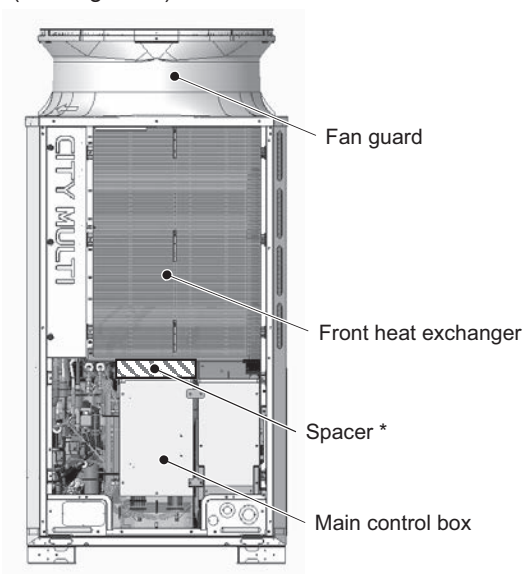
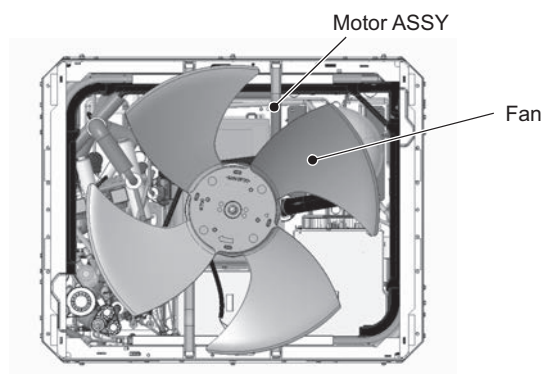

Figure 7
Figure 8
- (8) Remove the fan guard by unscrewing the 6 screws. (See Figure 7.)
- (9) Insert a spacer between the main control box and the heat exchanger.
- (10) Remove the motor ASSY by unscrewing the 4 screws, using caution not to damage the motor wiring or the fan. (See Figure 8.)